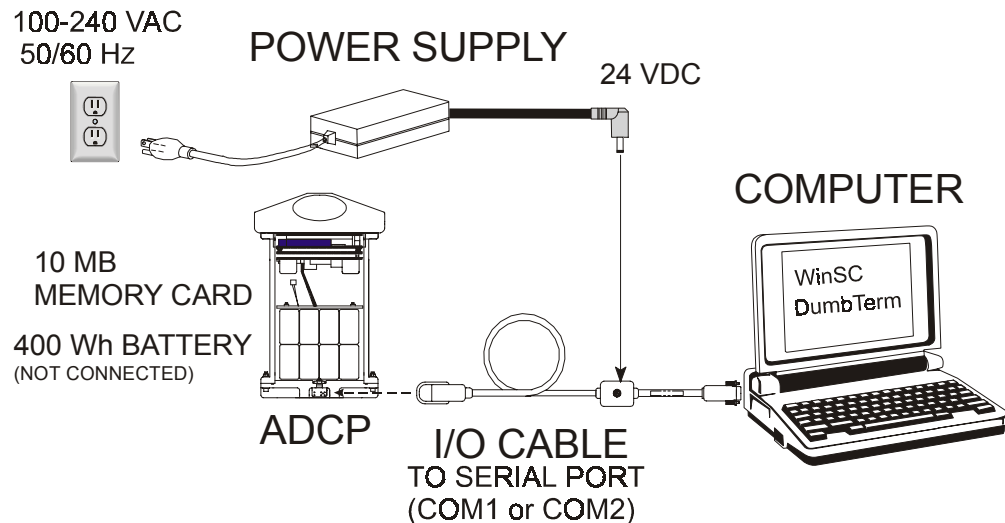

Figure 6. WorkHorse Sentinel Connections
Figure 6 illustrates how to connect the WorkHorse cables and adapters on your workbench. The internal battery plugs into a connector on the top circuit board.
- a. Connect and power up the ADCP as shown in Figure 6, page 11.